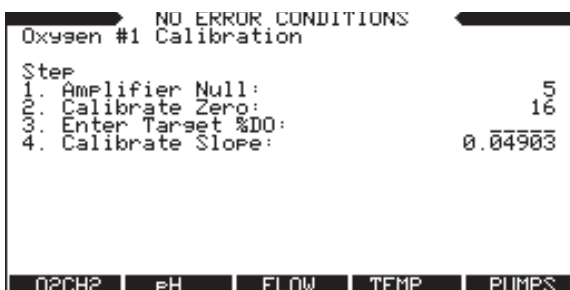

Figure 49. Enter target % DO
3. Press [3] to display the Enter Target % DO screen in order to change the target reference calibration point (Figure 49). This controller is preset at the factory to read O₂ saturated liquid as 100%. You may decide to correct this value to compensate for the effects of density altitude, depending on your location. Enter the desired value, and then press [ENTER]. *Unless the CellCube[®] System is used in a super saturated environment it is best to leave the value at 100%.*
4. Press [4] to display the Calibrate Slope menu (Figure 49). Place the probe in an environment saturated with O₂ until it reaches a stable reading. This may take a few minutes. The conditions surrounding the probe should remain constant during this portion of the test. An acceptable reference is a liquid in a container open to ambient air, a cylinder of compressed air, or a small pump such as an aquarium pump. When the signal is stable, press [ENTER] or the [A] button and the procedure is complete. The procedures used to enter the ID number will be discussed in the section Configure Inputs on page 32.